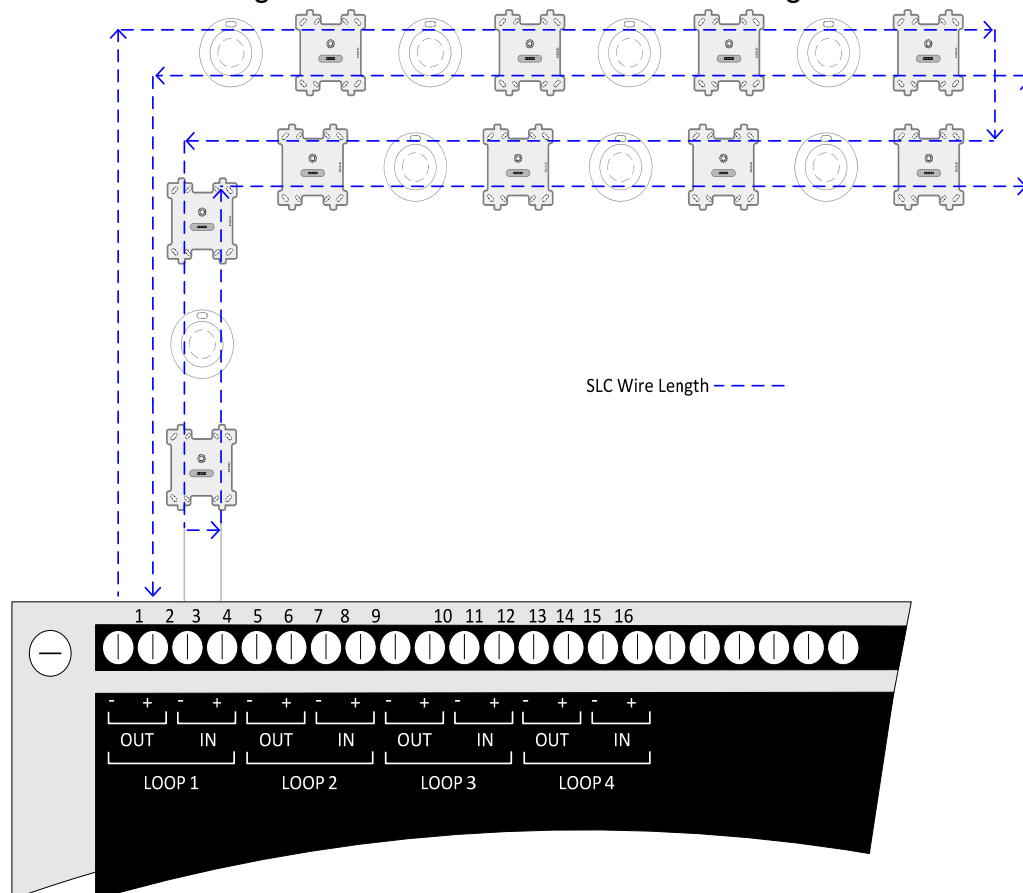

Figure 5.3.4 Measuring SLC Total Wire Length for Class A Circuits
- The total wire length must be measured as shown in Figure 5.3.4 below.